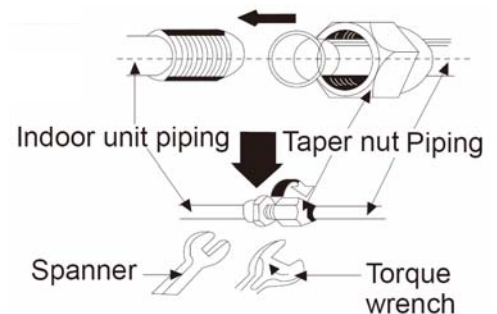

Fig.9
(3) Hang the mounting slots of the indoor unit on the upper hooks of the mounting plate and check if it is firm enough. (As shown in Fig.9)
(4) The installation site should be 250cm or more above the floor.